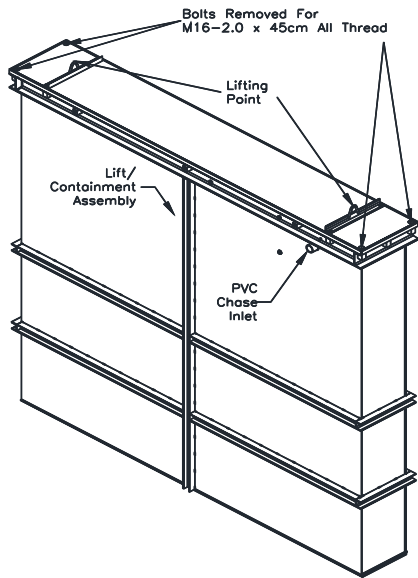

Fig 4 – Pick Up Points
1. For best balance of lift /containment assembly while lowering into excavation use lifting bracket lifting points. The lifting brackets are included with the lift and will need to be installed using the hardware and in the locations shown in **Fig 4**.
3. Remove the outer two bolts from each end of the protective cover plate and replace with M16-2.0 x 45cm (18") threaded rods, see **Fig 4 and 5**. Lock the threaded rod into the lift with a M16-2.0 jam nut. Attach two 6" x 6" timbers using M16-2.0 nuts and washers, to support the lift / containment assembly on the existing floor. Remove the shipping straps and replace the M16 x 40 hex socket head screw. Torque the bolts to 89 ft-lbs.